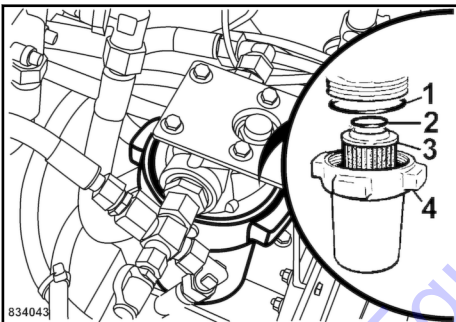

Fig. 101
Remove filter bowl (4) ↘ Fig. 101 with filter element (3).